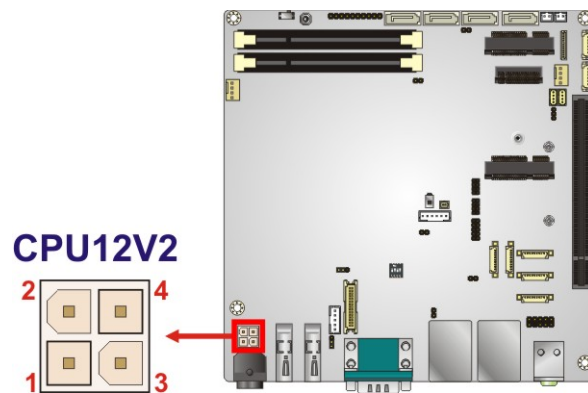

Figure 3-2: +12V DC-IN Power Connector Location
- CN Location:** See **Figure 3-2**